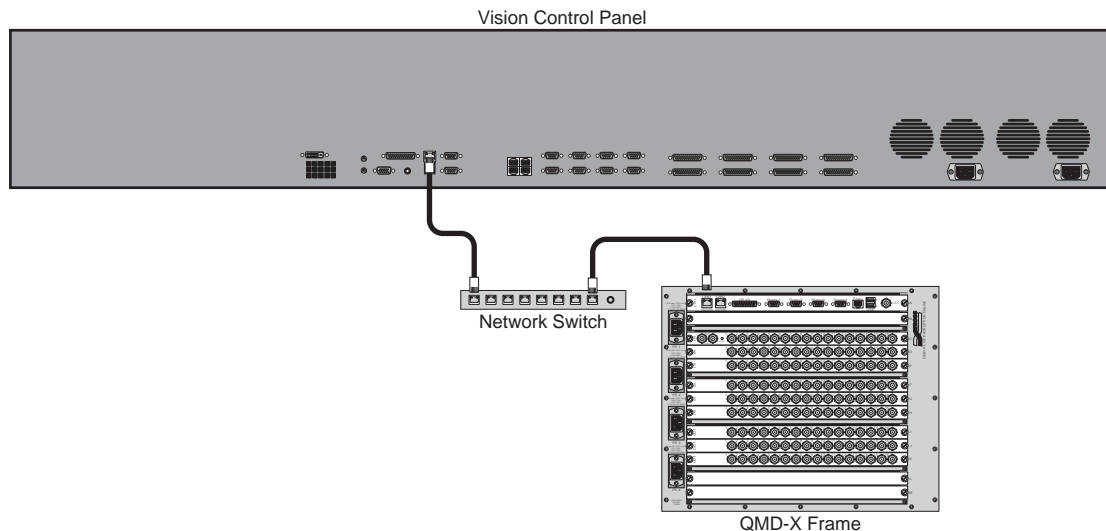

Figure 3.12 Connecting the Vision Control Panel to the Frame (QMD-X Shown)
1. Connect and secure one end of the CAT5 (TIA/EIA-568-B) network cable to the **LAN1** port on the **CPU Board** at the back of the frame. (**Figure 3.12**)